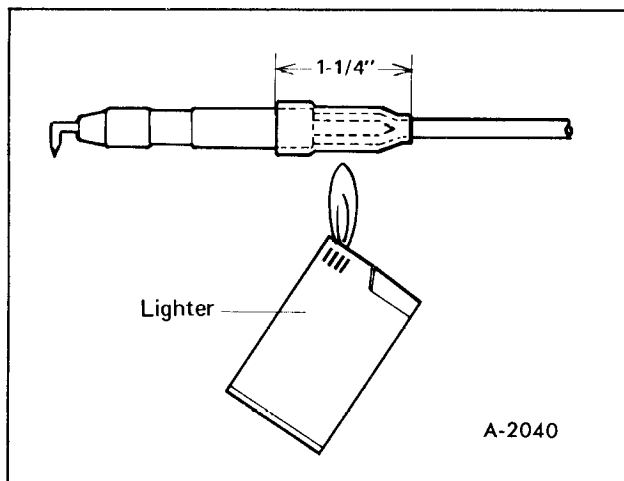

Figure 14—Heating Shrink Tube
3. Heat shrink tube, made of thermosetting resin, uniformly with a lighter or match until a good fit is obtained (figure 14).